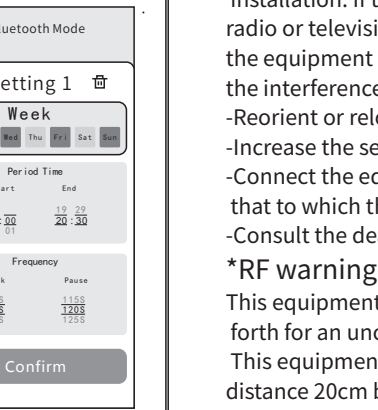

Figure 6
6. Click on any time slot, as shown in Figure 6
① In week mode, you can choose whether the week icon is